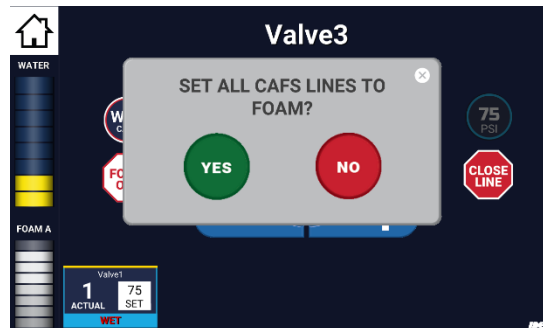

Figure 19. Foam Only Popup Confirmation
If more than one CAFS FOAM ONLY discharge is open the confirmation popup window appears. See Figure 19. Touch the YES bubble to transition to FOAM ONLY or the NO bubble to make no change.
- C. Touch YES on the popup verification. (See Figure 19, page 11.)